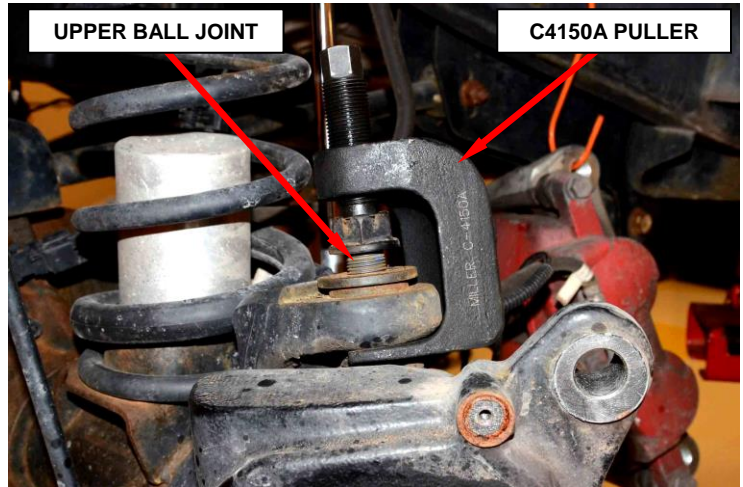

Figure 9 – Upper Ball Joint
16. Separate the upper ball joint from the knuckle using special tool C4150A Puller, once separated remove the upper ball joint nut and **discard** (Figure 9).